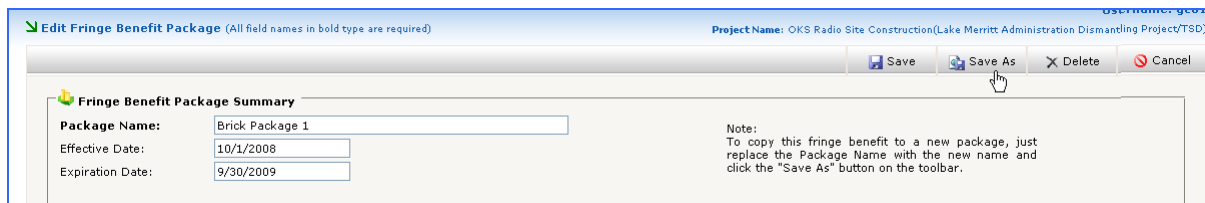

Figure 56 – Click on “Save As” Screen
1. Locate the Fringe Benefit Package that you want to copy from and double-click on the name. This will direct your web browser to the Benefit Package Summary screen (Figure 56).